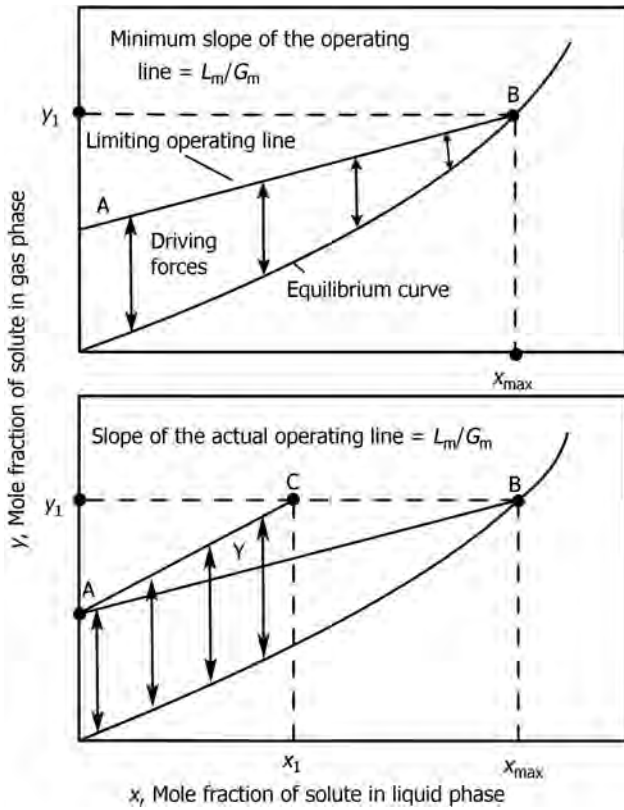

FIGURE 17.2 Equilibrium curve and operating line for absorption systems without heat effects.
- When operating line touches the equilibrium line, driving force for mass transfer becomes zero, giving rise to inoperable conditions. For systems not involving heat effects (e.g., dilute mixtures and non-acidic gas absorption), the operating line touches equilibrium curve (pinch point) at the gas inlet conditions, that is, bottom of the absorber (Figure 17.2).
- Figure 17.2 represents the slopes of minimum and actual operating lines.